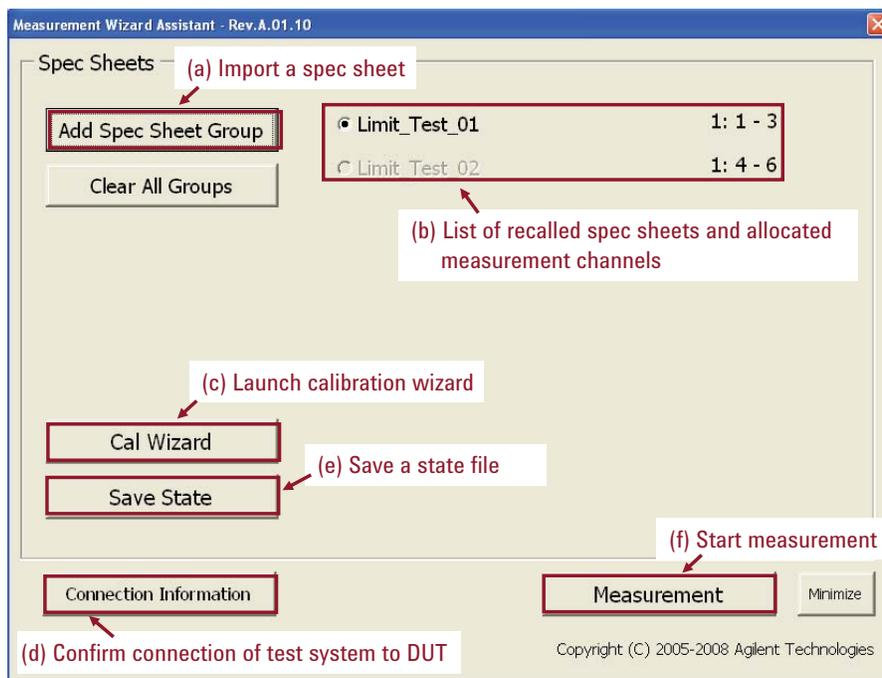

Figure 9. Main MWA window (Back-End application)
- 1) Launch the Back-End application on the ENA by selecting [**Macro Setup**] > **Load Project** > select the latest version of MWA > [**Marco Run**]. The main MWA window appears on the ENA's display (Figure 9).